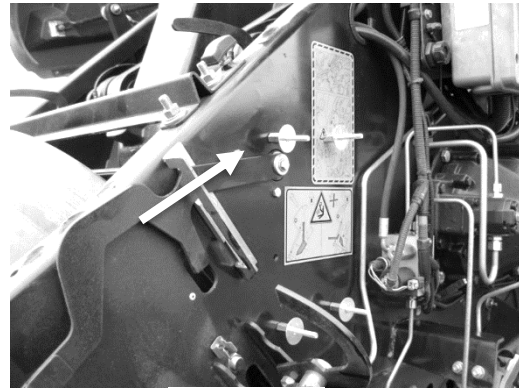

Figure 2
4. Use four 5/16" x 3" hex bolts with four flat washers (positioning bolt heads on the inside of the baler frame) and secure to the baler with four 1 1/8" threaded standoffs that will be on the outside of the baler frame. Position four fender washers between the DCP and standoffs (Figure 2).